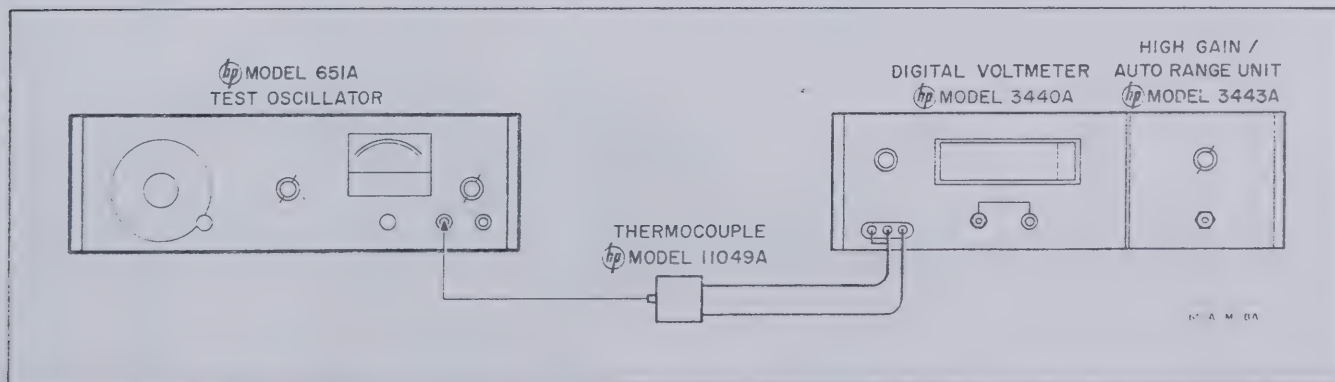

Figure 5-3. Output Meter Flatness and Instrument Frequency Response Check
- Connect Model 651A as shown in Figure 5-3.